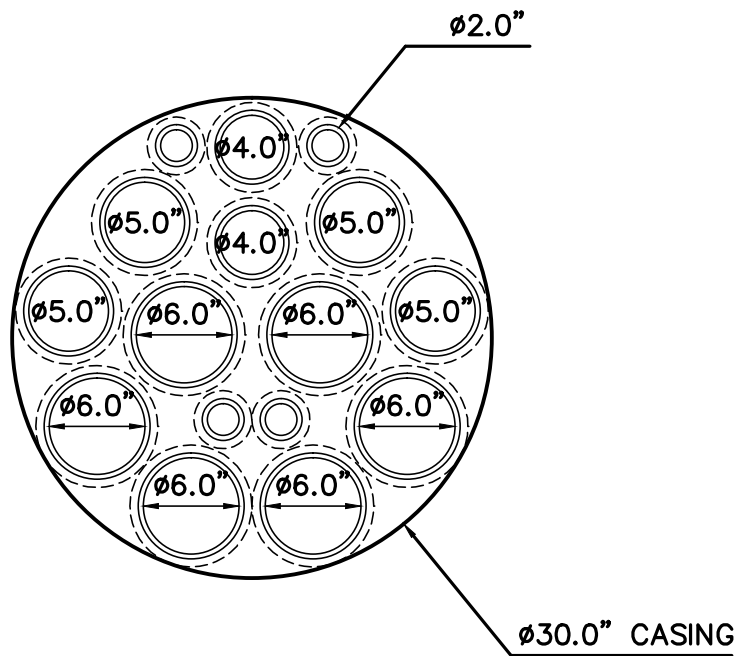

FIGURE 2
- The 69kV can likely be co-located with the 12kV SDG&E duct bank as there is space within the 30-inch casing limit. Using the maximum casing diameter of 30 inches, the total ducts required inside the casing would be adding 6 – 6-inch and 1 – 4-inch duct (for the two 69kV lines) to the existing 4 – 5-inch and 2 – 4-inch distribution line ducts which does fit in the 30-inch casing (refer to Figure 2²).
² Figure 2 shows the 30-inch casing will just barely accommodate the two 69 kV circuits in addition to the existing distribution line ducts.